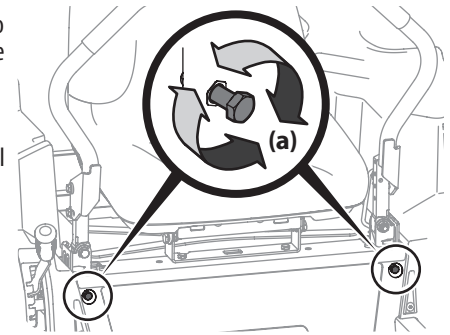

Figure 46
2. Locate the lapbar drive control lever stop adjustment bolts (a) on the front of the seat frame. See Figure 46.